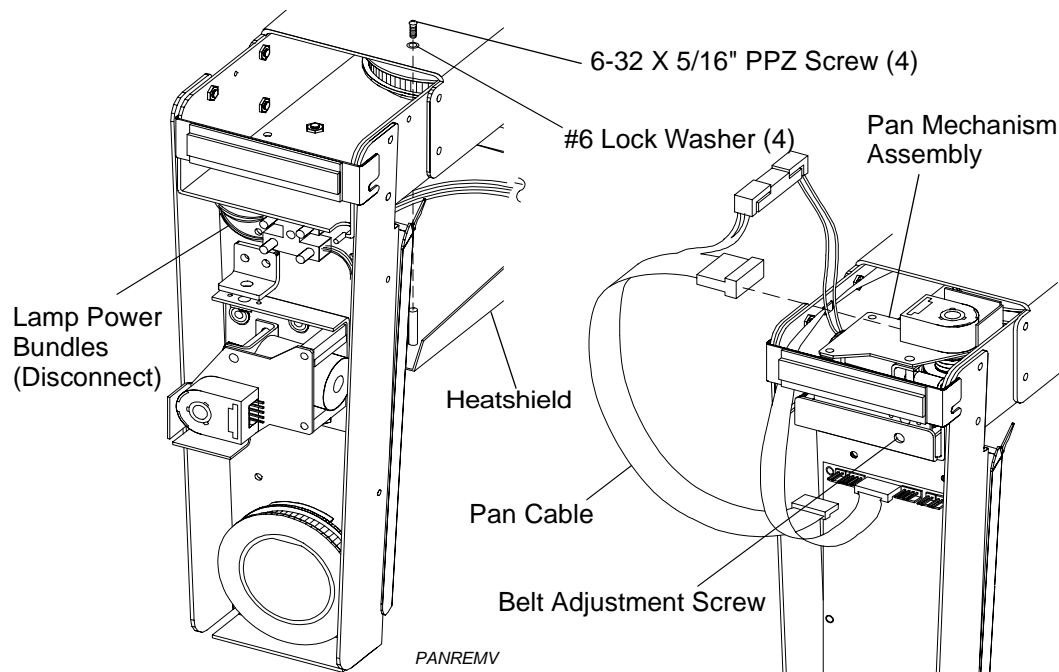

Figure 2-23: Disconnecting Pan Mechanism Assembly Wires
- Step 3. At yoke top cross member, using #2 Phillips screwdriver, remove four 6-32 X 5/16" PPZ screws and four #6 lock washers securing heatshield to cross member, and remove heatshield. **Figure 2-23.**